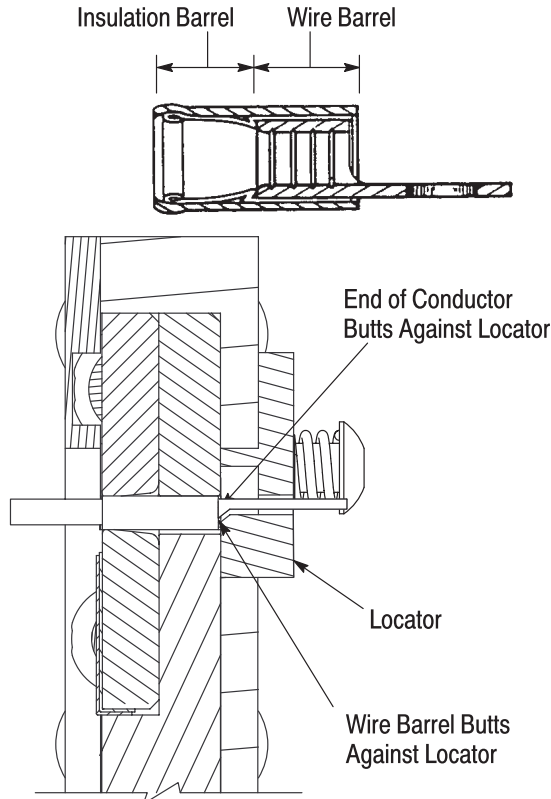

Figure 3
Refer to Figure 3 and the following steps for terminal crimping procedures.
4. Place the terminal into the crimping jaws as shown in Figure 3.
5. Insert the *unstripped* wire into the insulation barrel portion of the terminal. Refer to Figure 3.